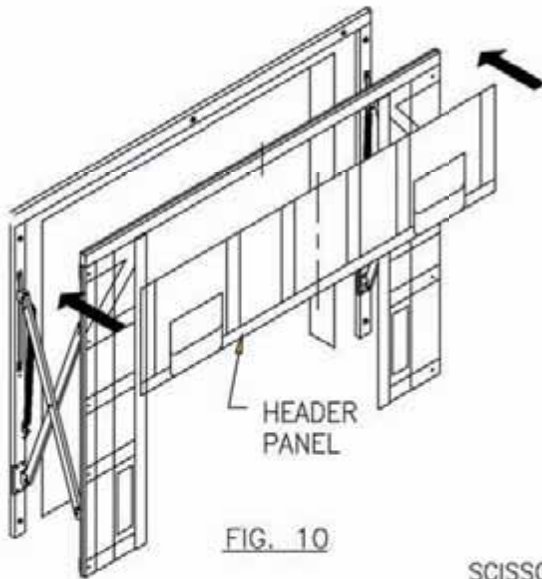

FIG. 10
- Using roofing nails; attach header curtain from center and work outwards by nailing beside each stay (fig. 10).